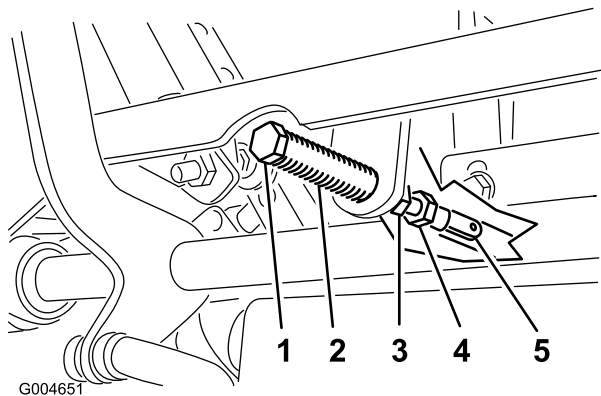

Figure 51
5. Pull the lever back until the clevis pin (on an arm above the pivot shaft) contacts the end of the slot (just beginning to put pressure on the spring) as shown in Figure 51.
7. If adjustment is needed, loosen the nut and jam nut against the yoke (Figure 51).
8. Applying slight rearward pressure on the motion-control lever, turn the head of the adjustment bolt in the appropriate direction until the control lever is centered in the NEUTRAL-LOCK position (Figure 51).
9. Tighten the nut and jam nut (Figure 51).
10. Tighten the jam nuts at the ball joints (Figure 51).